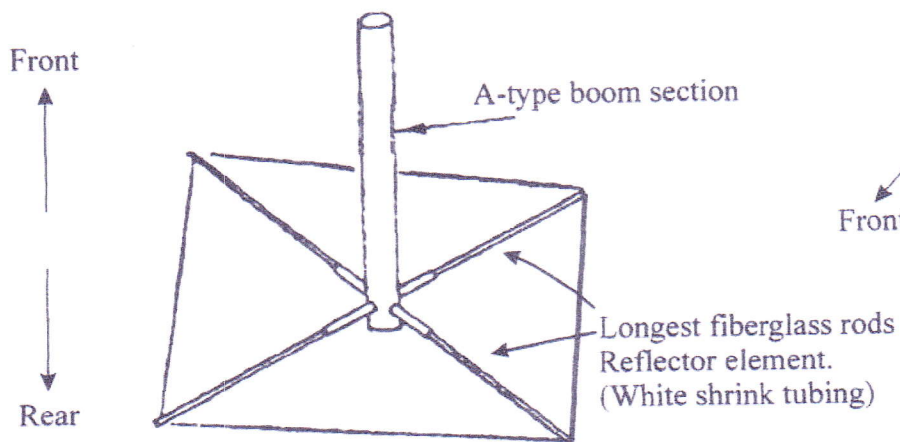

figure 5
- 6) There are 6 bundles of fiberglass rods. Select the 4 longest rods, and insert them in the $\frac{1}{2}$ " dia rod support brackets in the A-type boom section from step 2.- (The drilled end of the rods must be away from the boom). Carefully unroll the REFLECTOR element wire. This wire is identified by WHITE shrink tubing, marking the points of attachment to the fiberglass rods. Attach the wire to the rods using 4 wire clamps and 4-40 hardware, including 4-40 x $\frac{3}{4}$ bolts, nuts, & lock washers. Wire should be attached facing rear of antenna. Refer to figures 5 & 6.